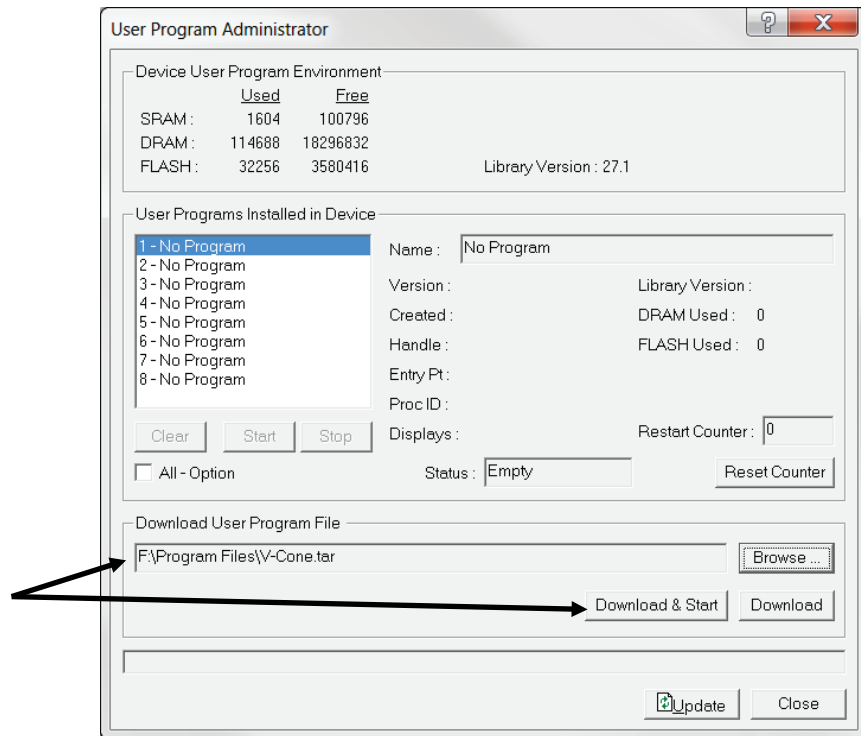

Figure 2-5. User Program Administrator
11. Click **Open** to select the program file. The User Program Administrator screen displays. As shown in Figure 2-5, note that the Download User Program File frame identifies the selected program and that the **Download & Start** button is active: